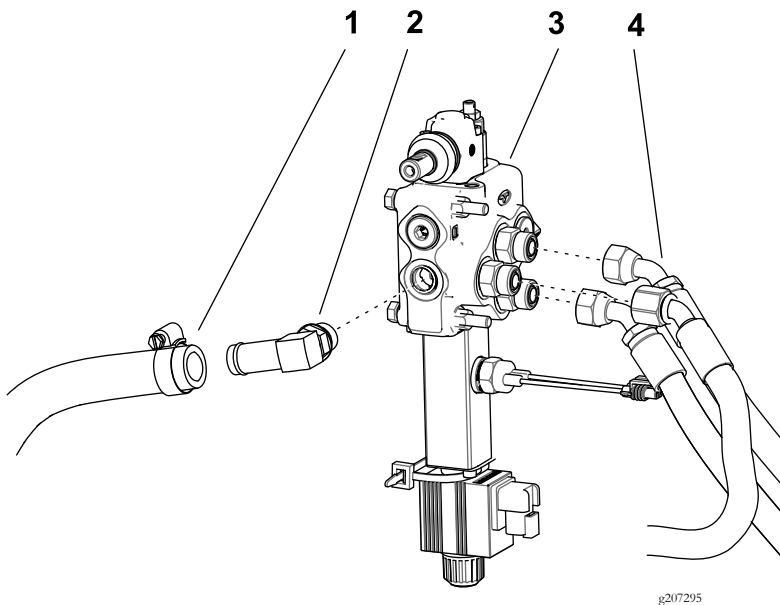

Figure 16
5. Attach the elbow fitting to the port on the back of the auxiliary valve (Figure 16).
7. Remove the plug from the return hose, and attach it to the elbow fitting with the hose clamp (Figure 16).